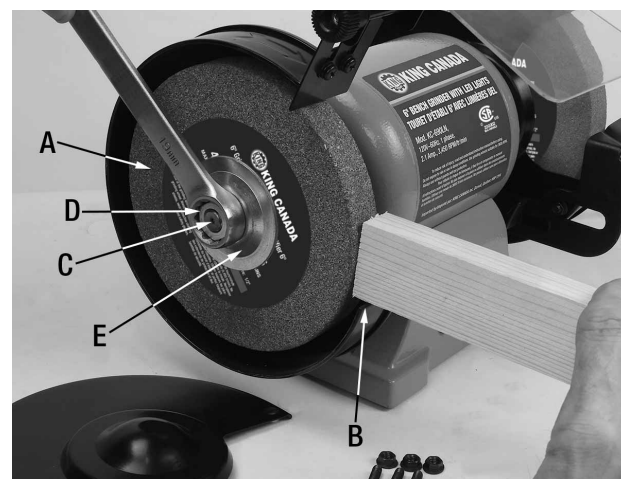

FIGURE 9
2. Use a piece of wood to wedge the grinding wheel (A) Fig.9 against the grinding wheel guard (B) to prevent the shaft (C) from rotating. Remove the arbor hex. nut (D) using a 19 mm wrench.
NOTE: The arbor hex. nut (D) Fig.9 on the left side of the bench grinder is left hand threaded (rotate clockwise to loosen). The arbor hex. nut on the right side of the bench grinder is right hand threaded (rotate counterclockwise to loosen).
3. Remove the outer flange (E) and slide off the old grinding wheel (A).
4. Make sure the inner flange is in position, then install the new grinding wheel. Secure it with the outer flange (E) and arbor hex. nut (D).